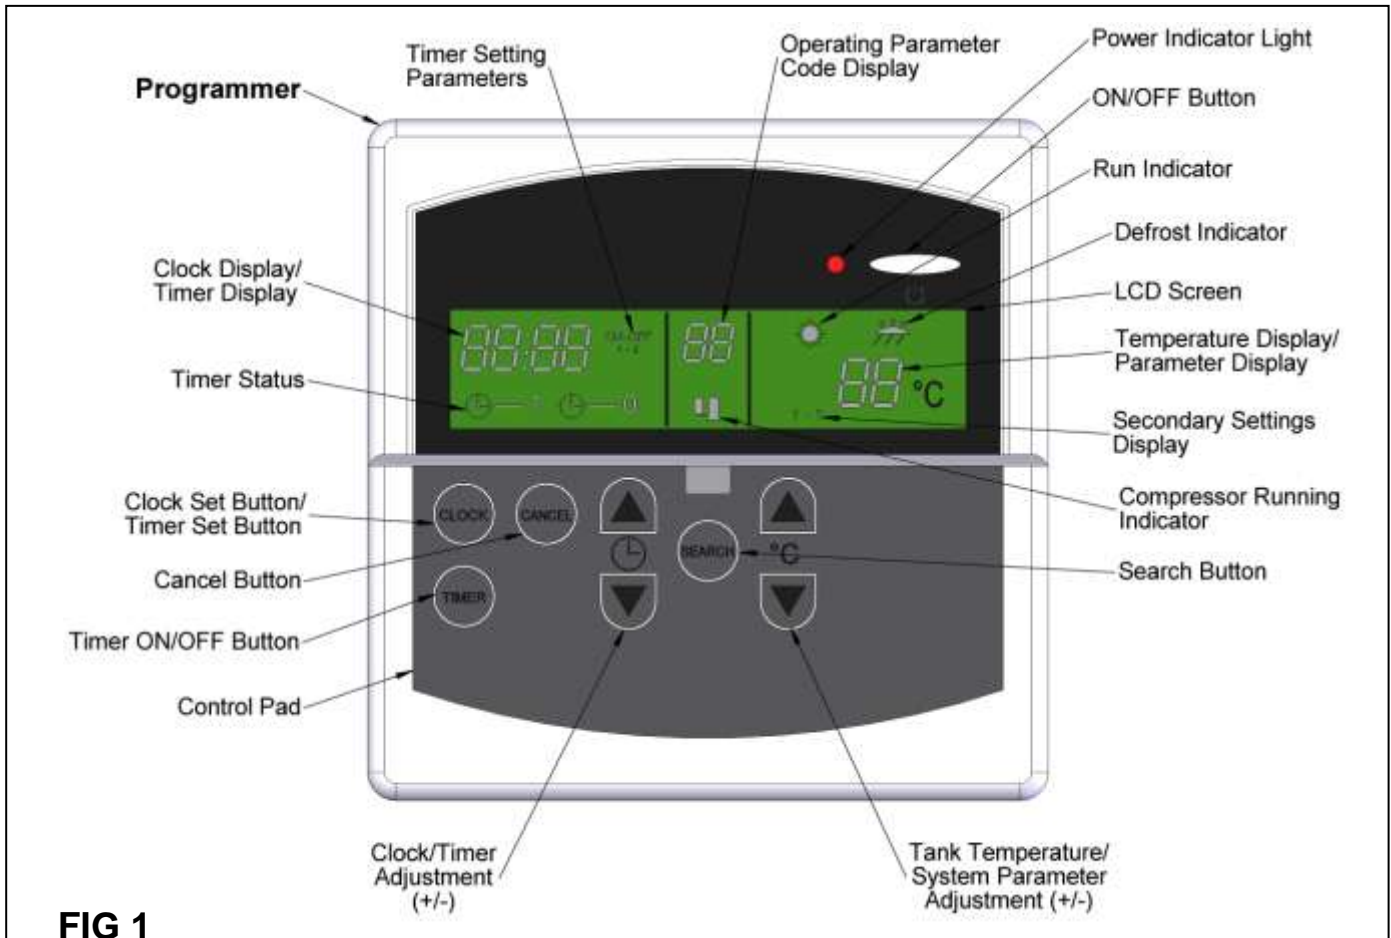

FIG 1
The diagram below (**fig. 1**) shows the programmer layout with the controls uncovered (lift off the protective flap).
In certain circumstances, the unit may enter a temporary lockout mode in order to maintain efficient operation. During such times, a code will appear on the programmer display (**fig. 1**). This is entirely normal and the unit will automatically resume functioning once it has completed its reset cycle.
If the temperature is cold enough for ice to develop on the coil, this may become clogged and cause the appliance to cease operation. Should this occur, the unit will automatically enter defrost mode. This will divert heat from the heating circuit back to the coil until the ice has melted. The DEFROST symbol will appear above the temperature display (see **fig. 1**) during such times.
1. The unit may be running through a process to clear an operating parameter condition. In most cases, this will be cleared automatically, though if it persists, check the programmer display (**fig. 1**) for an operating parameter number. Refer to the guide on **page 25** for full descriptions and remedies.
4. Check the unit has not entered defrost mode (the DEFROST symbol will appear above the temperature display – see **fig. 1**). Should this occur, the heat output from the appliance will be diverted to the coil, until any ice build-up has been removed.